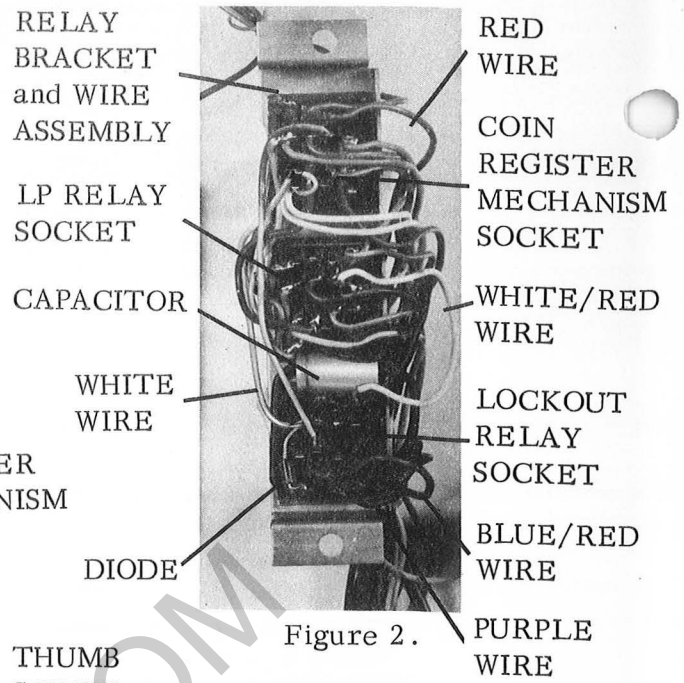

Figure 2.
9. Unsolder and disconnect White wire from Contact 13 of LOCKOUT RELAY SOCKET. Refer to Figure 2 for socket location.
10. Connect CAPACITOR, Part No. 76462-37, between Contacts 13 and 14 of LOCKOUT RELAY SOCKET (plus side of CAPACITOR to Contact 13) as shown in Figure 2. Do not solder at this time.
11. Connect DIODE, Part No. 76700-20, between Contacts 13 and 5 of LOCKOUT RELAY SOCKET (Cathode to Contact 13) as shown in Figure 2. Do not solder at this time.
12. Connect White wire, disconnected in Step 9, to Contact 5 of LOCKOUT RELAY SOCKET, as shown in Figure 2. Do not solder at this time.
13. Unsolder and disconnect the Blue/Red wire from Contact 8 of LP RELAY SOCKET. Refer to Figure 2. for socket location.
14. Connect Blue/Red wire, disconnected in Step 13, to Contact 12 of LOCKOUT RELAY SOCKET as shown in Figure 2. Do not solder at this time.
15. Connect three inch WHITE/RED WIRE, Part No. 75004-9, between Contact 8 of LP RELAY SOCKET and Contact 4 of LOCKOUT RELAY SOCKET as shown in Figure 2. Do not solder at this time.
22. Connect Red wire of SWITCH and BRACKET ASSEMBLY to Contact 2 of COIN REGISTER MECHANISM SOCKET as shown in Figure 2. Do not solder at this time.
23. Connect Purple wire of SWITCH and BRACKET ASSEMBLY to Contact 14 of LOCKOUT RELAY SOCKET as shown in Figure 2.